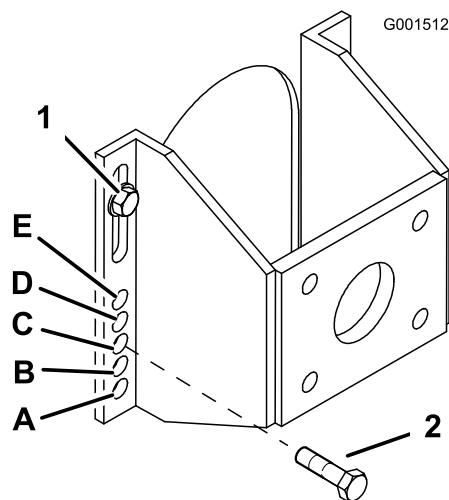

Figure 20
5. Loosen, but do not remove, the 2 top axle bolts (Figure 20).
6. Remove the 2 lower axle bolts (Figure 20).
7. Raise or lower the mounting bracket, so that you can install the 2 axle adjustment bolts in the desired hole location (Figure 20). A tapered punch can be used to help align the holes.